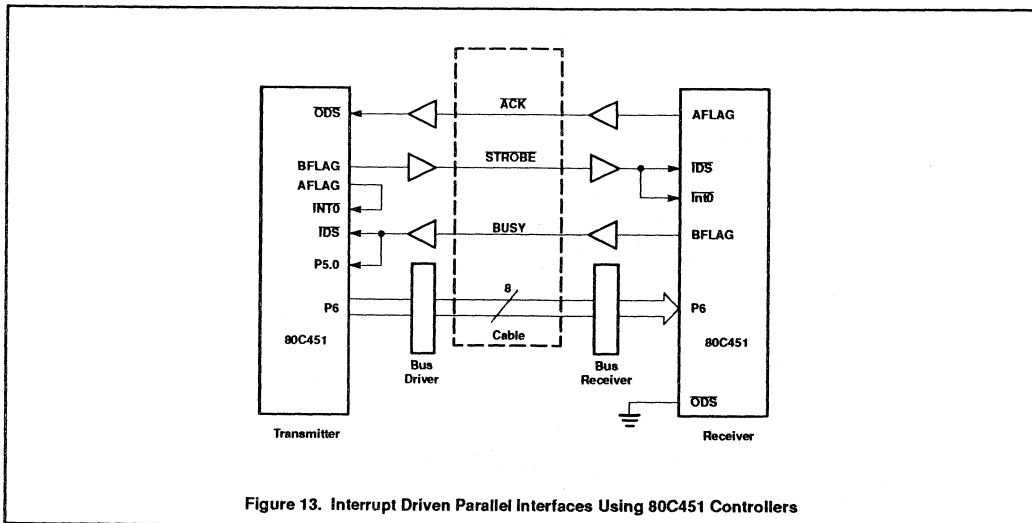

Figure 13. Interrupt Driven Parallel Interfaces Using 80C451 Controllers
**INTERRUPT DRIVEN PARALLEL PRINTER INTERFACE (SEE FIGURE 13)****Transmitter Operation**